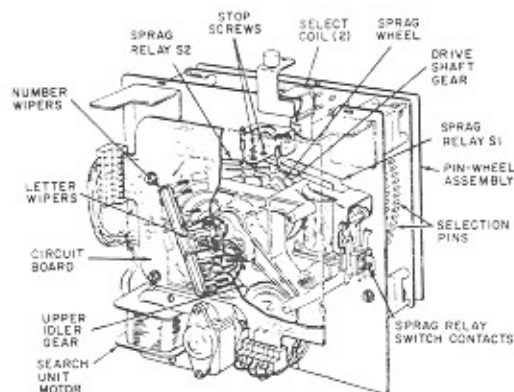

FIGURE 3-18. SEARCH UNIT MAJOR COMPONENTS
**Search Unit.** (See figure 3-18) The search unit pushes pins that correspond to record selections. These pins are detected by the record changer mechanism stop switch pawl. The search unit is located on the record changer mechanism right side. The front side of the search unit printed circuit board represents the 10 numbers in the phonograph selection system. The rear side represents the 20 letters.